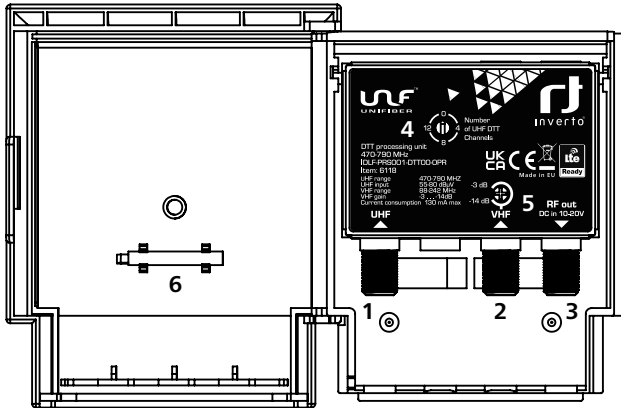

Figure 3. - External view of the units
- Set the number of DTT channels in UHF band with rotary switch (pos. 4, Figure 3) before fitting unit on mounting place. Good equalization of UHF DTT channels improve system performance.
- Using regulator 5 (see Figure 3) set the DAB and FM signals level on 6111/6112 input precisely.